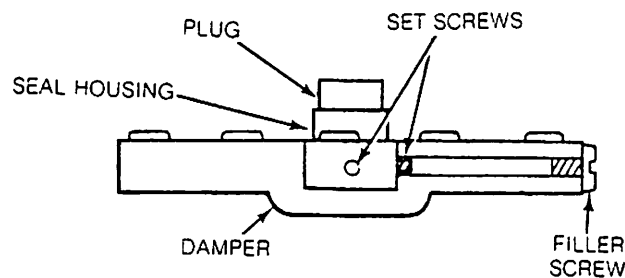

FIGURE 3.
- c. Insure that the damper remains level, with the seal housing facing up, to prevent fluid loss (reference Figure 3).